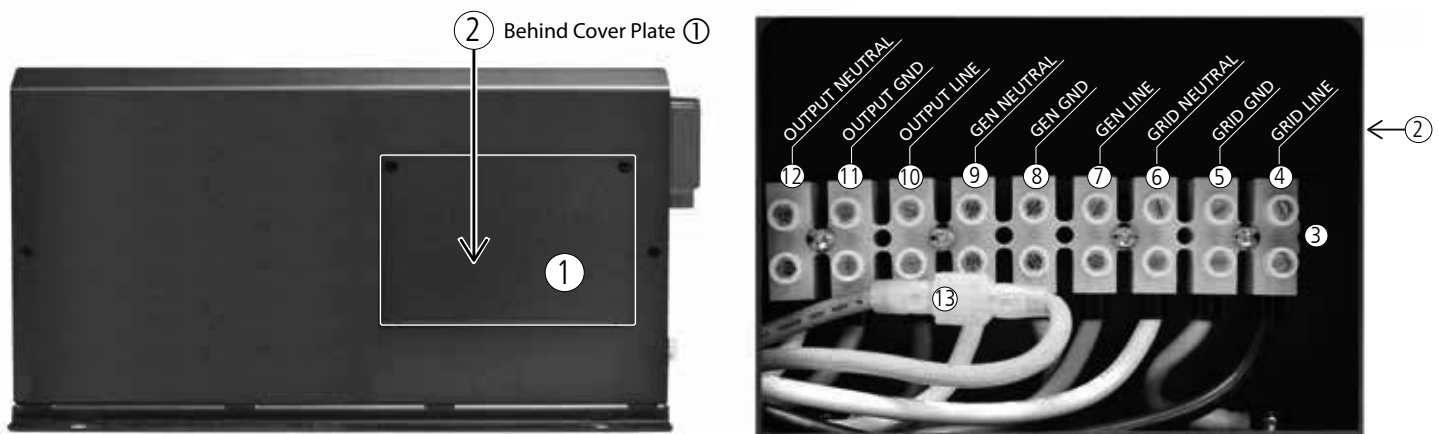

Fig 3.9 AC Input and Output
AC side layout and connection arrangement are shown in Fig 3.9.
LEGEND for Fig 3.9
- Disabling Neutral to Ground Bond: In some applications, the Output Neutral may be required to remain isolated from chassis/Ground at all times. For this, automatic Output Neutral to chassis Ground bond can be disabled by disconnecting the Male/Female Disconnect (*13, Fig 3.9*) located in the AC Wiring Compartment.
The AC input and output supply connections are located in a pocket protected by a cover with a removable front plate (1,2 Fig 3.9). Three 27.8mm / 1^{3/32}" diameter holes (10A to 10C, Fig 2.1) have been provided for cable / conduit entry. Remove the caps covering the holes and install appropriate 3/4" Trade Size Fitting for routing the AC input and output wires/conduits.
Screw down type of terminal block (3, Fig 3.9) is used for connecting the wires. The hole size for wire entry is 6 mm and set screw size is M4. It can accommodate conductors with solid or multi-stranded wire size range of AWG #6 to AWG #20.